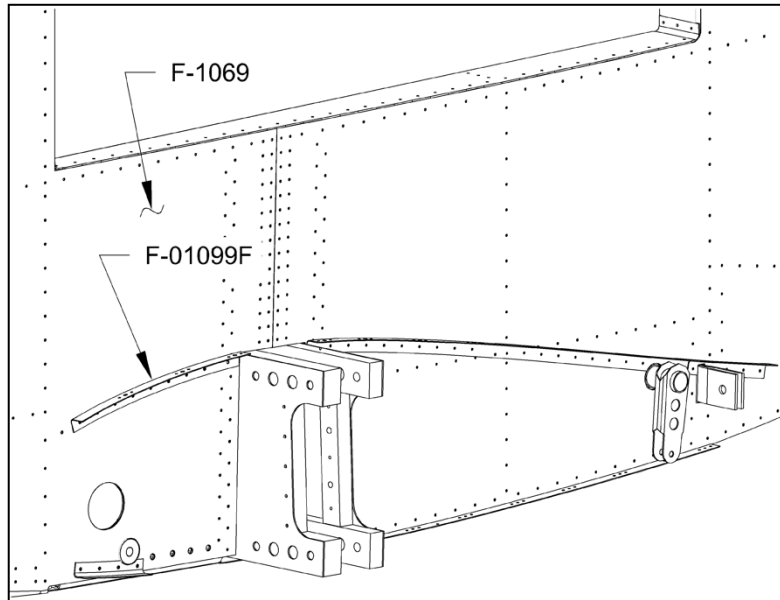

FIGURE 7: REMOVING THE WING ROOT FAIRING SUPPORT
Step 23: From both sides of the fuselage, drill out the AN470AD4 rivets that attach F-1099F Wing Root Fairing Support to the F-1069 Fwd Fuse Side Skin, then remove the support. See Figure 7.